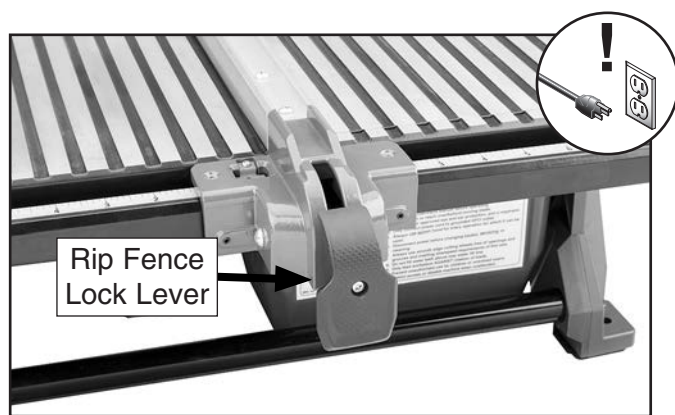

Figure 20. Rip fence lock lever location.
3. Unlock rip fence by lifting rip fence lock lever, adjust to desired width on scale, and push lock lever down to secure (see **Figure 20**).